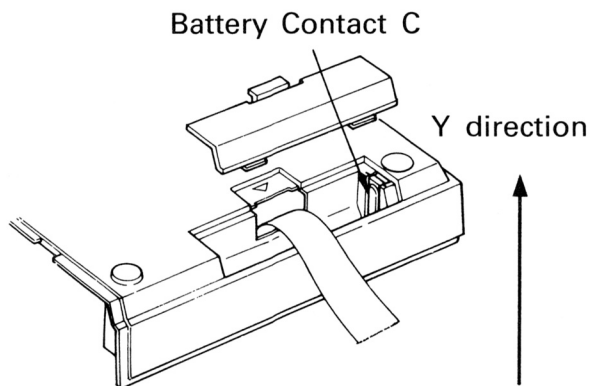

Fig. 3-11
4. Remove battery contact C by moving it in the Y direction from the rear side of the lower case (Fig. 3-11).